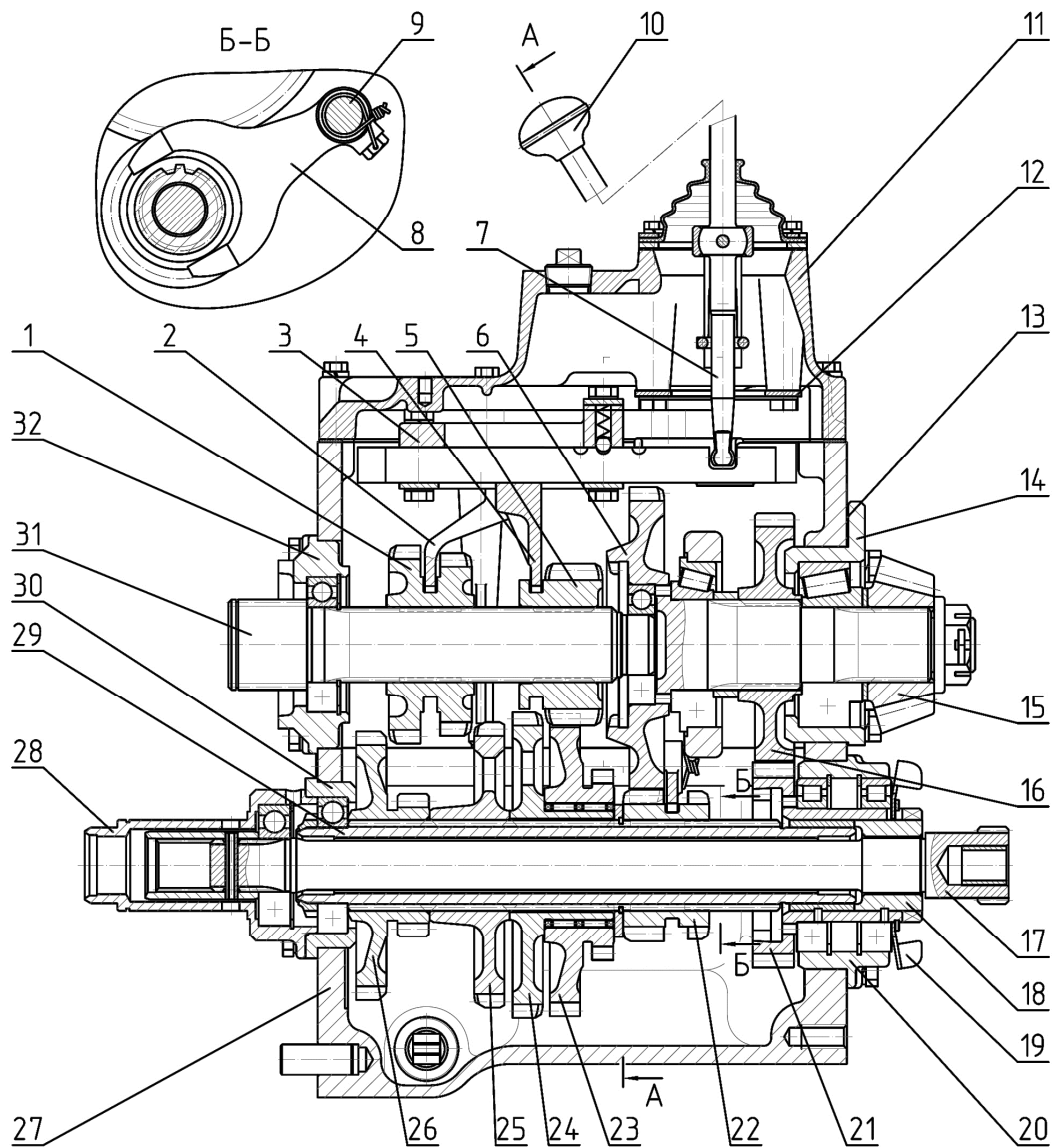
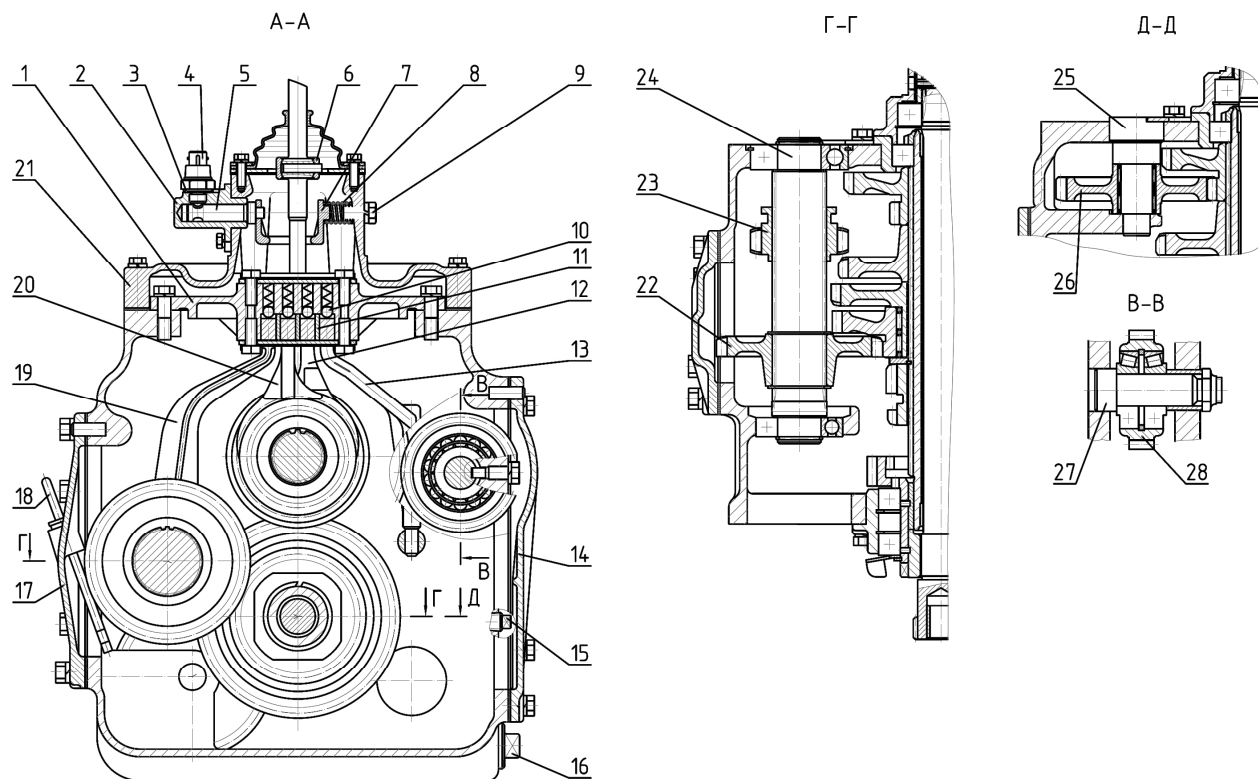

Fig. 1. Gearbox of BELARUS-510/512 tractor (9F/2R)
Fig. 2. Gearbox of BELARUS-510/512 tractor (9F/2R)
The GB (Fig. 1 and 2) consists of the mechanical gears unit and GB control.
The mechanical gears unit of the GB consists of the concentric input (31) and output (6) shafts located in the GB housing (27) (Fig. 1)*, as well as an intermediate shaft (29) parallel to them and the shaft of 1st gear and reverse (24) (Fig. 2).
The input shaft (31) (Fig. 1) is mounted on two ball bearings one of which is placed in the body (32) on the front wall of the GB housing (27). The second one is in the boring of the output shaft (6). On the input shaft, a double-wheel drive pinion of 4th and 5th gears (1) and a drive pinion of 3rd and 6th gears (5) with possibility of axial sliding movement along the shaft splines are installed.
The output shaft supports (6) (Fig. 1) are two tapered roller bearings, one located in the GB housing boring (27), and the second in the body (14) installed in the boring of the rear wall of the GB housing (27). Structurally, the output shaft is made as one piece with the driven pinion of 1st stage of the range reducer. The gear ring is located cantilevered in front of the output shaft (6). Between the supports of the output shaft, the driven pinion of 11nd stage of the range reducer (16) is installed fixed on the splines, which is also the drive pinion of the rear PTO synchronous drive. On the rear arm of the output shaft, the drive gear (15) of the rear axle final drive (small bevel pinion) is installed fixed on the splines.
On the intermediate shaft (29), fixed on the splines are installed the double-wheel driven pinion of 5th and 8th gears and reverse gears (26), driven pinion of 4th and 7th gears (25), and driven pinion of 3rd and 6th gear (24), on the hub of which the double-wheel intermediate pinion (23) is freely rotating on needle roller bearings, being in constant mesh with the pinion (22) (Fig. 2) installed on the shaft of 1st gear and reverse gears (24). On the intermediate shaft (29) (Fig. 1), with the possibility of axial movement the drive pinion (22) of 1st stage of the range-reducer is installed.
The 1st gear and reverse shaft (24) (Fig. 2) is installed on two ball bearings located in the GB housing borings. In the front of the shaft (24) on splines, the sliding pinion (23) of hill-climbing gears and reverse gears is installed. Backward movement of the sliding pinion (23) up to meshing with the pinion (25) (Fig. 1) provides forward hill-climbing gears, and forward movement up to meshing with the intermediate pinion of reverse motion (26) (Fig. 2) provides reverse gears. The intermediate reverse pinion (26) is installed on the axle (25) and is freely rotating on it on a needle roller bearing. The pinion (26) is in constant mesh with the smaller gear ring of the double-wheel gear (26) (Fig. 1).
At the rear part of the shaft (24) (Fig. 2), fixed on its splines, the driven pinion of hill-climbing gears and reverse gears (22) installed, which is constantly meshed with the smaller gear ring of the pinion (23) (Fig. 1) of the intermediate shaft (29).
On the right side of the GB of the tractors with FDA drive, the axle (27) is installed in the GB housing borings, on which on two tapered roller bearings the FDA drive pinion (28) is freely rotating. Power is taken off at the FDA from the driven pinion of 1st stage of the range reducer (6) (Fig. 1), with which the pinion (28) (Fig. 2) is constantly meshed.
On the front wall of the GB housing (27) (Fig. 1), concentrically to the intermediate shaft (29), the seat (28) is installed, inside of which the inner shaft front bearing (17) is located.
On the right and left sides of the GB housing, there are windows (Fig. 2). The left window is closed with the cover (17), in which there is a dipstick (18) to control the oil level. The tractors without an FDA drive have the right window closed with the cover (14), and the tractors with the FDA drive have the cover (14) removed and the window closed by the FDA drive transfer box housing (see section).
The GB control consists of the forks housing (3) (Fig. 1) and the GB control cover (11) that are installed on the upper plane of the GB housing (27) and bolted to it.
The forks housing (3) (Fig. 1) consists of the fork of 1st gear and reverse gears (19) (Fig. 2), the fork of 3rd and 6th gears (20), the fork of 4th and 5th gears (12) and the range reducer rod (13), the rails of which are installed in the groove of the housing (1) and can move along the groove. On the upper surfaces of the rails, there are transverse holes in which the spring-loaded balls of the latches (10) are inserted, which provide locking of the forks rails and reducer rail in the desired positions, as well as prevent spontaneous disengagement of the gears under load.
The rod (13) is connected with the shaft (9) (Fig. 1), on which the fork (8) is fixed that moves the drive pinion of 1st stage of the range reducer (22).
The forks and range reducer rails are separated by three lock strips (11) (Fig. 2). The strips (11) are installed in the housing (1) fixed and exclude simultaneous movement of several rails by the gear shifter lever (7) (Fig. 1). When a gear is engaged, the lock strips (11) lock the gear shifter lever (7) (Fig. 1) in the rail groove of the fork of the gear engaged.
The GB control cover (11) consists of the cover (21) (Fig. 2), on the upper surface of which the spherical bearing (6) of the gear shifter lever (7) (Fig. 1) is bolted. When swinging, the gear shifter lever (7) directly affects the rails in the forks housing (3), causing their displacement and, consequently, engagement or disengagement of the selected gear or range in the GB.
The GB design provides an engine start lock when a gear is engaged in the GB. On the right side of the cover (21) (Fig. 2), the housing is installed (2) bolted to it. In the housing (2), the axle (5) of the spring-loaded rocking frame (7) is located. The ring hole of the frame (7) envelops the gear shifter lever (7) (Fig. 1). At that, rocking of the lever (7) results in a corresponding movement of the frame (7) (Fig. 2), the axle flat (5) of which affects the diesel start lock sensor (4) mounted in the threaded hole of the housing (2).
The 9F/2R GB design provides 4 forward gears and one reverse gear, each of them can be engaged on the both range reducer stages, and one direct forward gear, at engagement of which the input (31) (Fig. 1) and output (6) shaft are rigidly linked by the drive pinion of 3rd and 6th gears (5) acting as a gear-type coupling at that.
To select and engage a reducer range, the operator shifts the gear shift lever (7) (Fig. 1) from the neutral position to the range-reducer position (Fig. 3). Further, to engage the 1st reducer stage, the operator shifts the GB control lever (7) (Fig. 1) backwards (Fig. 3). At that, the gear shifter lever (7) (Fig. 1), acting on the reducer rail (13) (Fig. 2), moves it and its associated roller (9) (Fig. 1) with the fork (8) forward. The drive pinion of 1st reducer stage (22) controlled by the fork (8) moves along the intermediate shaft splines (29) and engages with the driven pinion (6) of 1st range reducer stage.
To engage the 11nd reducer stage, the operator shifts the GB control lever (7) (Fig. 1) in the range reducer position forward (Fig. 3). At that, the gear shifter lever (7) (Fig. 1), acting on the reducer rail (13) (Fig. 2), moves it and its associated roller (9) (Fig. 1) with the fork (8) forward. The driven pinion of 1st reducer stage (22) controlled by the fork (8) moves along the intermediate shaft splines (29) and engages with the inner gear ring of the drive pinion (21) of 11nd range reducer stage, linking it to the intermediate shaft (29). The pinion (21) is in constant mesh with the driven pinion of the 11nd range reducer stage (16).
In the GB range reducer, there is no neutral position of the drive pinion of the 1st reducer stage (22) (Fig. 1), therefore either the 1st or the 11nd stage is always turned on in the range reducer.
To engage the 1st or 2nd forward or reverse gear, the operator shifts the GB control lever (7) (Fig. 1) to the extreme left position (Fig. 3) being the position of hill-climbing gears and reverse gears. Further, to engage the 1st or 2nd forward gear, the operator shifts the GB control lever (7) (Fig. 1) forward (Fig. 3). At that, the gear shifter lever (7) (Fig. 1), acting on the rail of the fork of the 1st gear and reverse gear, moves the fork (19) (Fig. 2) backward. The sliding pinion of 1st gear and reverse motion (23) controlled by the fork (19) engages with the driven pinion of 4th and 7th gears (25) (Fig. 1), and power in the GB is transmitted to the ?GB intermediate shaft (29) through the pinions (5), (23), (22) (Fig. 2), (23) and (25) (Fig. 1).
To engage the 1st or 2nd reverse gear, the operator shifts the GB control lever (7) (Fig. 1) to the position of hill-climbing gears and reverse gears backward (Fig. 3). At that, the gear shifter lever (7) (Fig. 1), acting on the rail of the fork of the 1st gear and reverse gear, moves the fork (19) (Fig. 2) forward. The sliding pinion of 1st gear and reverse motion (23) controlled by the fork (19) engages with the intermediate pinion of reverse gear (26) being in constant mesh with the lesser gear ring of the double-wheel pinion of 5th and 8th gears (26) (Fig. 1). At the reverse gear, power flow in the GB is transferred to the intermediate shaft (29) through the pinions (5), (23), (22) (Fig. 2), (23), (26) and (26) (Fig. 1).
lever (7) (Fig. 1) to the respective positions of those gears (Fig. 3). Further, to engage the 3rd (6th) gear, the operator shifts the GB control lever (7) (Fig. 1) to the position of the said gears backward (Fig. 3). At that, the gear shifter lever (7), acting on the rail of the fork of 4th and 5th gears, moves the fork (20) (Fig. 2) forward. The sliding pinion of 3rd and 6th gears (5) controlled by the fork (20) (Fig. 1) engages with the driven pinion of 3rd and 6th gears (24). By the emerged mesh, power is transferred to the GB intermediate shaft (29).
To engage the 9th (direct) gear, the operator moves the GB control lever (7) (Fig. 1) from the position of the 3rd (6th) and 9th (direct) forward gears (Fig. 3). At that, the gear shifter lever (7), acting on the rail of the fork of 3rd and 6th gears, moves the fork (20) (Fig. 2) forward. The sliding pinion of 3rd and 6th gears (5) controlled by the fork (20) (Fig. 1) engages with the inner gear ring of the output shaft (6), rigidly linking the input (31) and output (6) shafts.
The 9th (direct) gear must be engaged when the IInd range reducer stage is engaged (Fig. 3). This will avoid a loud noise in the GB, since the IInd reducer stage has an intermediate shaft speed (29) (Fig. 1) less than the Ist stage.
To engage the 4th (7th) or 5th (8th) gear, the operator shifts the GB control lever (7) (Fig. 1) to the respective positions of those gears (Fig. 3). Further, to engage the 4th or 7th gear, the operator shifts the GB control lever (7) (Fig. 1) to the position of the said gears forward. At that, the gear shifter lever (7), acting on the rail of the fork of 4th and 5th gears, moves the fork (12) (Fig. 2) and the drive pinion unit of 4th and 5th gears (1) controlled by it (Fig. 1) backward. The smaller gear ring of the unit (1) engages with the driven pinion of 4th and 7th gears (25). By the created mesh, power from the input shaft (31) is transferred to the GB intermediate shaft (29).
To engage the 5th or 8th gear, the operator shifts the GB control lever (7) (Fig. 1) to the position of the said gears backward (Fig. 3). At that, the gear shifter lever (7), acting on the rail of the fork of 4th and 5th gears, moves the fork (12) (Fig. 2) and the drive pinion unit of 4th and 5th gears (1) controlled by it (Fig. 1) forward. The larger gear ring of the unit (1) engages with the driven pinion of 5th and 8th gear (26). By the created mesh, power from the input shaft (31) is transferred to the GB intermediate shaft (29).